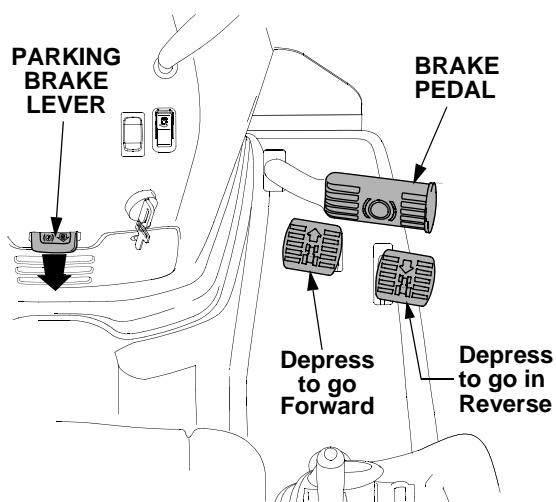

Figure 15
- Fully depress the brake pedal to bring the tractor to a complete stop. Push downward on the parking brake lever and release the pedal to engage the parking brake. See Figure 15.
- To move forward, slowly depress the forward control pedal (See Figure 15) until the desired speed is achieved. The speed of the tractor is directly related to the distance the pedal is depressed.
- To move in reverse, check that the area behind is clear then slowly depress the reverse control pedal. See Figure 15.